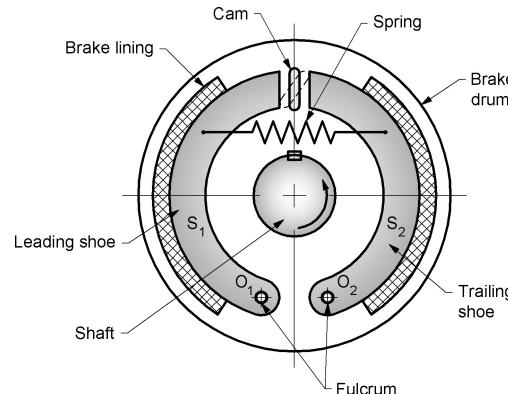

Fig. 7.14 Internal expanding shoe brake
- (1) The brake can be operated mechanically or hydraulically. Fig. 7.14 shows schematic diagram of mechanical operated internal expanding shoe brake.
- (2) It consists of two semi-circular shoes S_1 and S_2 with lower end pivoted at fulcrum O_1 and O_2 respectively. The other free end is connected to a cam. The outer surface of the shoes is lined with frictional material.
- (3) The shoes are connected by a spring which exerts inward force and keeps the brake in disengaged position with the drum. When the cam rotates, the shoes are pushed outwards against the rim of the drum.
- (4) The friction between the shoes and the drum produces the braking torque thus reducing the speed of drum or stop it completely.
- (5) When the cam is brought back to its original position, the spring force pulls the shoes inward and brakes comes back to its disengaged position with the drum.